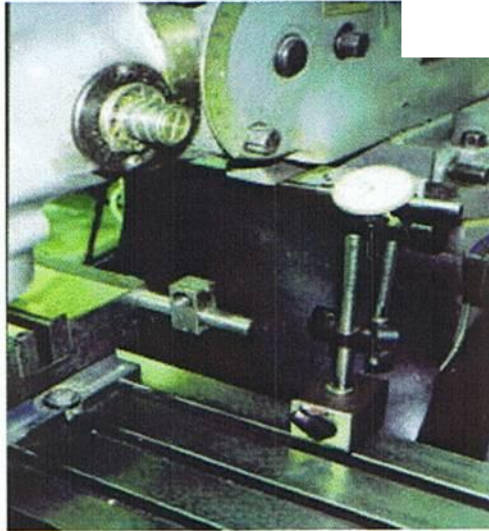

Figure 2
12. Using an indicator rotate the turret and indicate using the X axis until this wall is parallel with the X axis. (see figure 2)